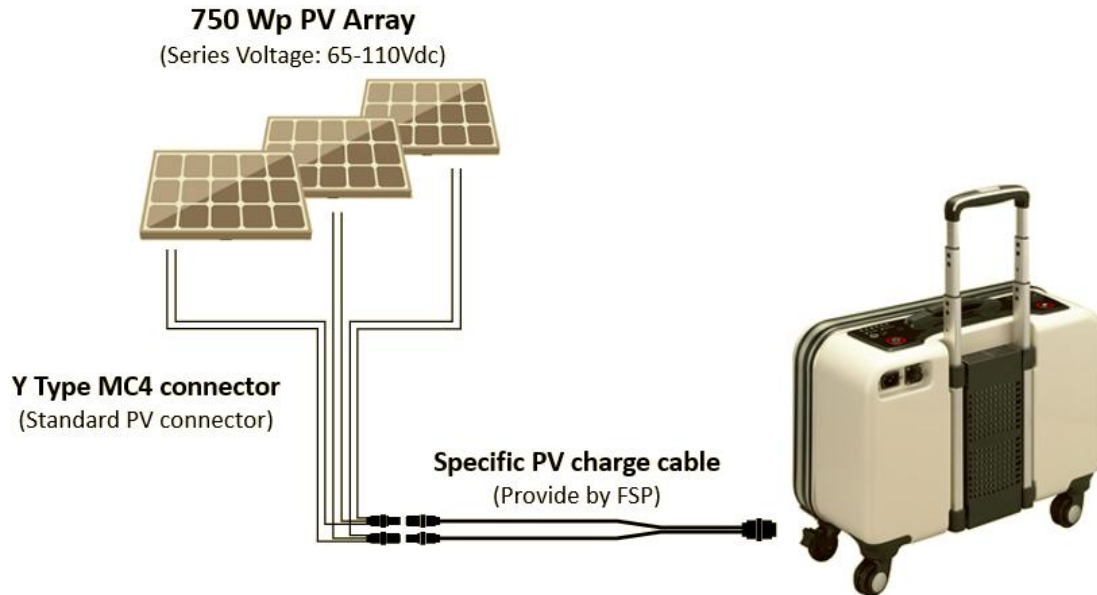

Figure 3. PV charging
Step 1: Connect PV charging cable adaptor to **PV INLET** first, as illustrated in Figure 3.